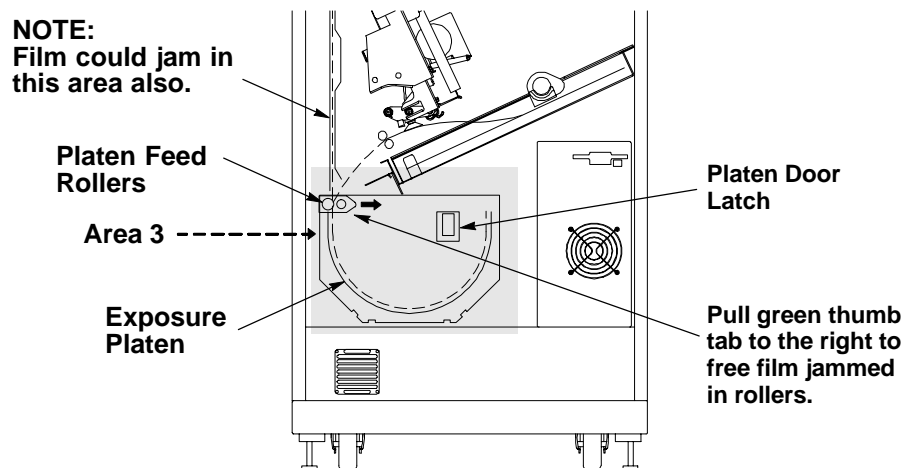

Figure 5-4. Jam Area 3
Area 3 includes the exposure platen (see Figure 5-4). Jams in this area occur as film is entering the platen before exposure, or as film is leaving the platen after exposure. In rare cases, film may stall in the transport area above the platen.
- b. Clear the film from inside the platen. If film is caught in the feed rollers (see Figure 5-4), pull the green thumb tab to the right to open the rollers and free the film.